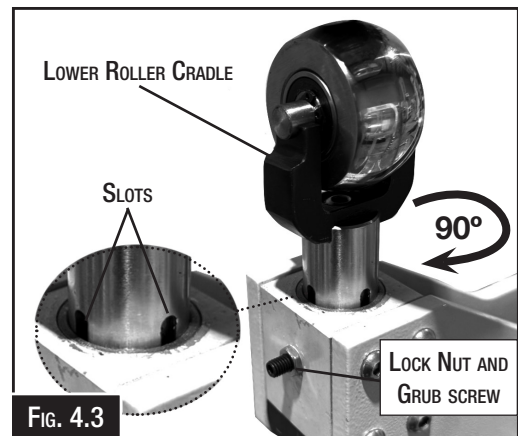

FIG. 4.3
2. Rotate the lower wheel adjustment spindle 90°, then re-install the lower wheel bracket guide grub screw making sure that the grub screw sits in the slot in the spindle. (Fig. 4.3)